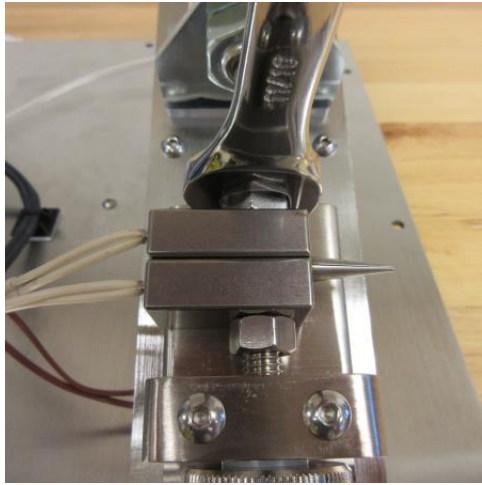

Figure 3.4.4
- Using a 3/8" open end wrench to hold the flats on the cylinder shaft and an 11/16" open end wrench on the hex nut, break the upper jaw nut loose by turning it counter clockwise. **Figure 3.4.4**